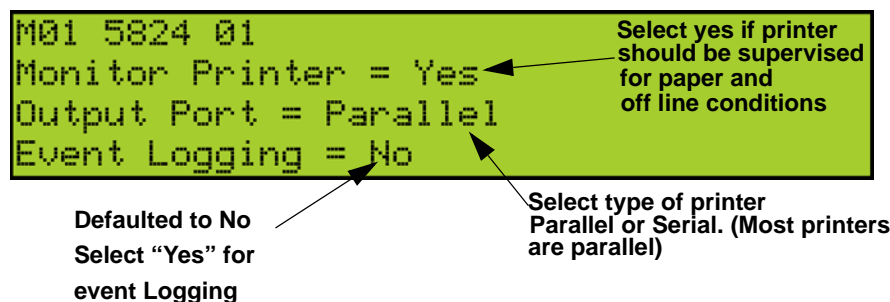

Figure 4-20 Selecting Printer and Output Port Options
5. Press **→** twice to skip over the Enter Module ID and Enter Module Name options. A screen similar to the one shown in Figure 4-20 will display.